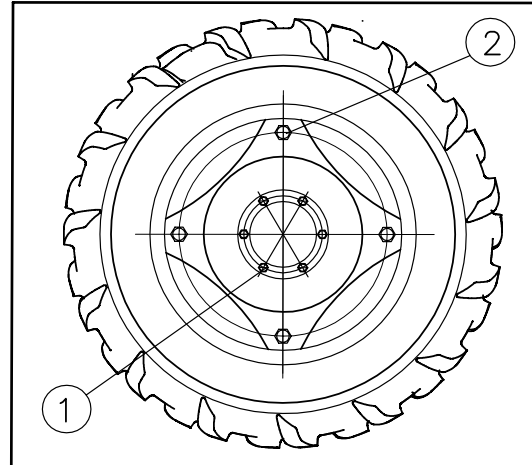

Fig. 4-23
- (1) Prescribed torque wrench setting for wheel nuts (Fig.4-23) : 250 Nm.
- (2) Rim to disk 280 Nm (Fig. 4-23)